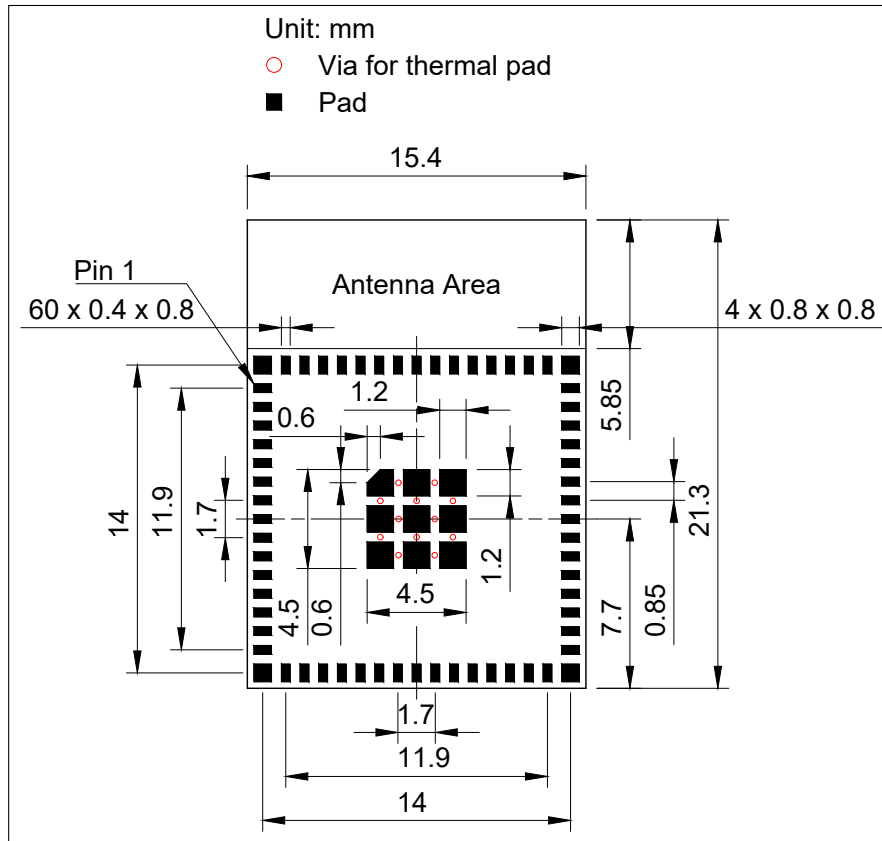

Figure 11-1. ESP32-C5-MINI-1 Recommended PCB Land Pattern
- Source files of recommended PCB land patterns to measure dimensions not covered in Figure 11-1. You can view the source files for ESP32-C5-MINI-1 and ESP32-C5-MINI-1U with Autodesk Viewer.